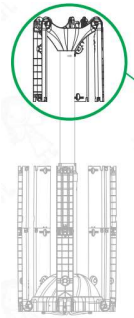

Figure 1.1
- A. Start with your Aqua-Tower's upper column extended with the upper arms lowered down (Figure 1.1)